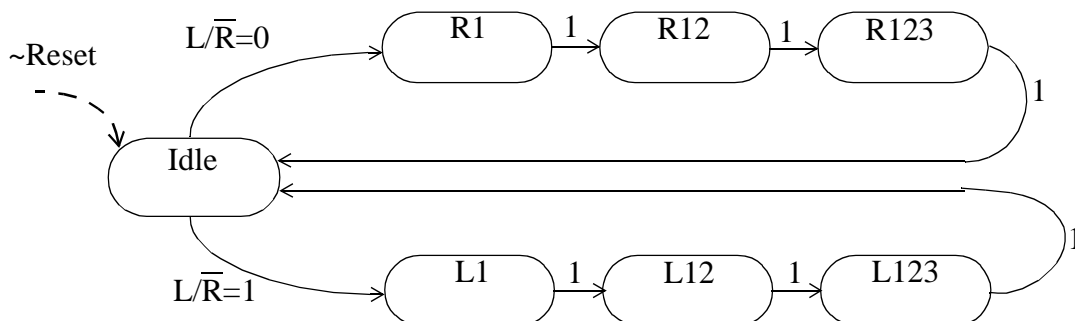

Fig 2: State diagram for the Detour Signal design
You all know the detour signal at road repair sites. The design in this lab is a simplified version of those light boards. It has four groups of lights -- GL (Group Left), G1, G2 and GR (Group Right) -- controlled in sequence to indicate *detour to the right* or *detour to the left* (Figure 1). We provide a switch (**L/R**) to choose the detour left or detour right action. The complete state machine (Figure 2) only looks at the switch during the Idle state. It then proceeds through a series of states (detour left or detour right) and then returns to Idle state.
6.2 Open the `ee254l_detour.sch` schematic file. This is an incomplete implementation of the state machine. **Complete the design** by adding additional state memory (flip-flops), next state logic, and output function logic. Notice the two different types of flip-flops used -- FDP and FDC. Determine the difference between them using the "Symbol Info" button in the schematic editor's "Symbols" tab. Your completed design must implement the state machine in Figure 2 and then produce the four output signals (**OFL**): **GL**, **G1**, **G2** and **GR**.